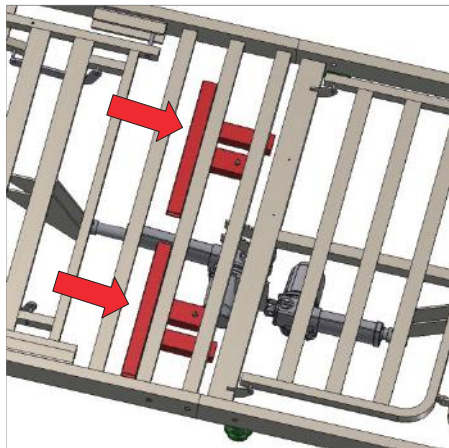

Figure 7: Transport bracket storage
17. The transport brackets can be safely stored on the bed frame to prevent loss of the brackets. To do so, raise the bed to its full height. The transport brackets can then be attached to the fixing points on the underside of the bed as indicated (Figure 7). Ensure that each bracket is locked in place.